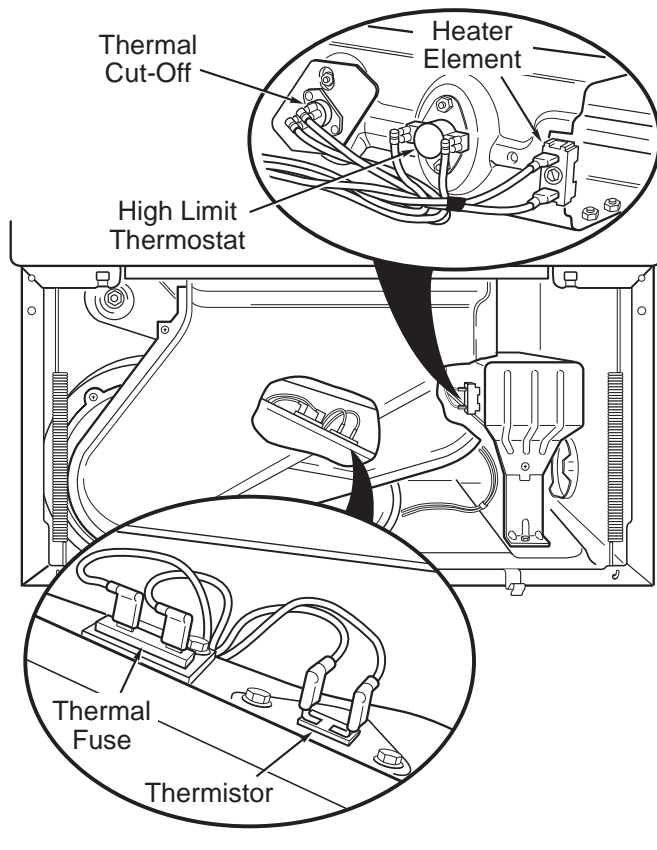

Figure 1
Remove the thermistor from the fan housing and plug the hole. Protect the thermistor and leads from grounding against any metal parts. See Figure 1. Completely block the exhaust outlet. Turn dryer on and allow the high-limit thermostat to cycle once, then measure the time elapsed until the high-limit thermostat trips. It should trip between 21 and 38 seconds.
Once the thermal fuse has opened, it must be replaced. Check for failed thermistor or other cause of failure. Replace failed parts. Refer to Figure 1.
- a. If you hear three short beeps and the dryer shuts off after several seconds, the thermistor is either shorted or open and must be replaced. To replace the thermistor, unplug the dryer and remove the front toe panel. Remove the two wires and replace the thermistor as shown in Figure 1.
This unit is equipped with a “one-shot” thermal cut-off. See Figure 1. If the dryer does not heat and there are 240 Volts to the dryer, disconnect the dryer from its electrical source and check thermal cut-off for continuity. If continuity is open, thermal cut-off has failed and must be replaced.